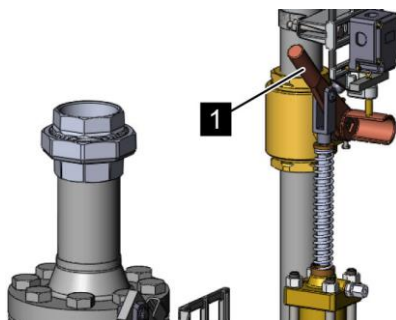

Fig. 104: Operating element
1. ➤ Fit the hand lever (Fig. 104/1) onto the operating element of the selector valve.